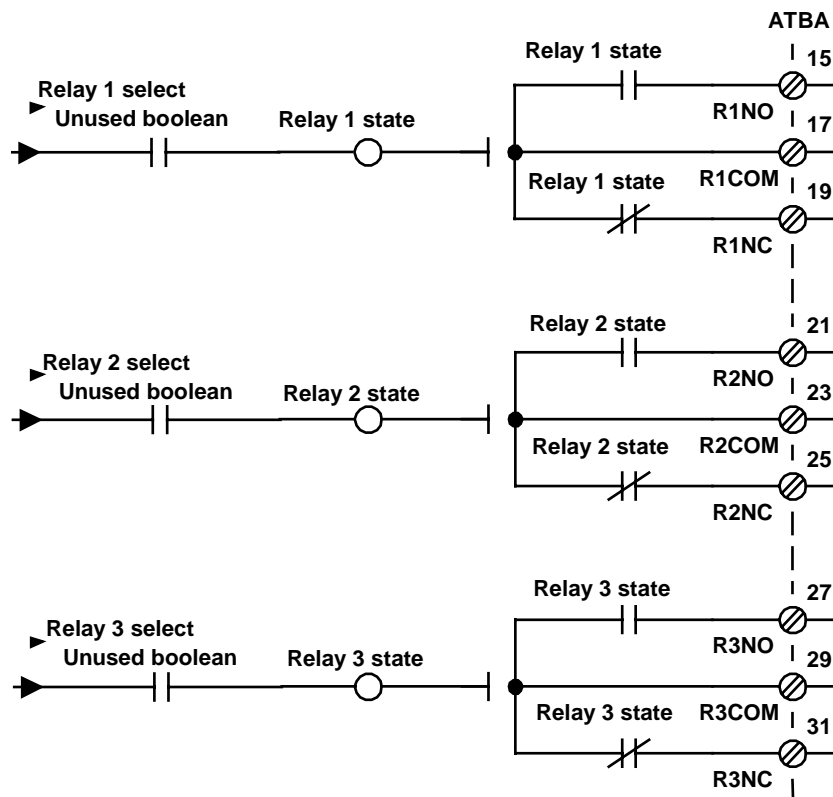

Figure 4-2. ATBA Board Digital Relay Outputs
Three separately controlled Form C relay contacts are provided for discrete outputs (refer to Table 4-2 and Figure 4-2). Each relay output has a common (COM), normally open (NO), and normally closed (NC) line. The board and elementary labels identify these (for example, *R1NO*). These relays are de-energized when reset or powered down.